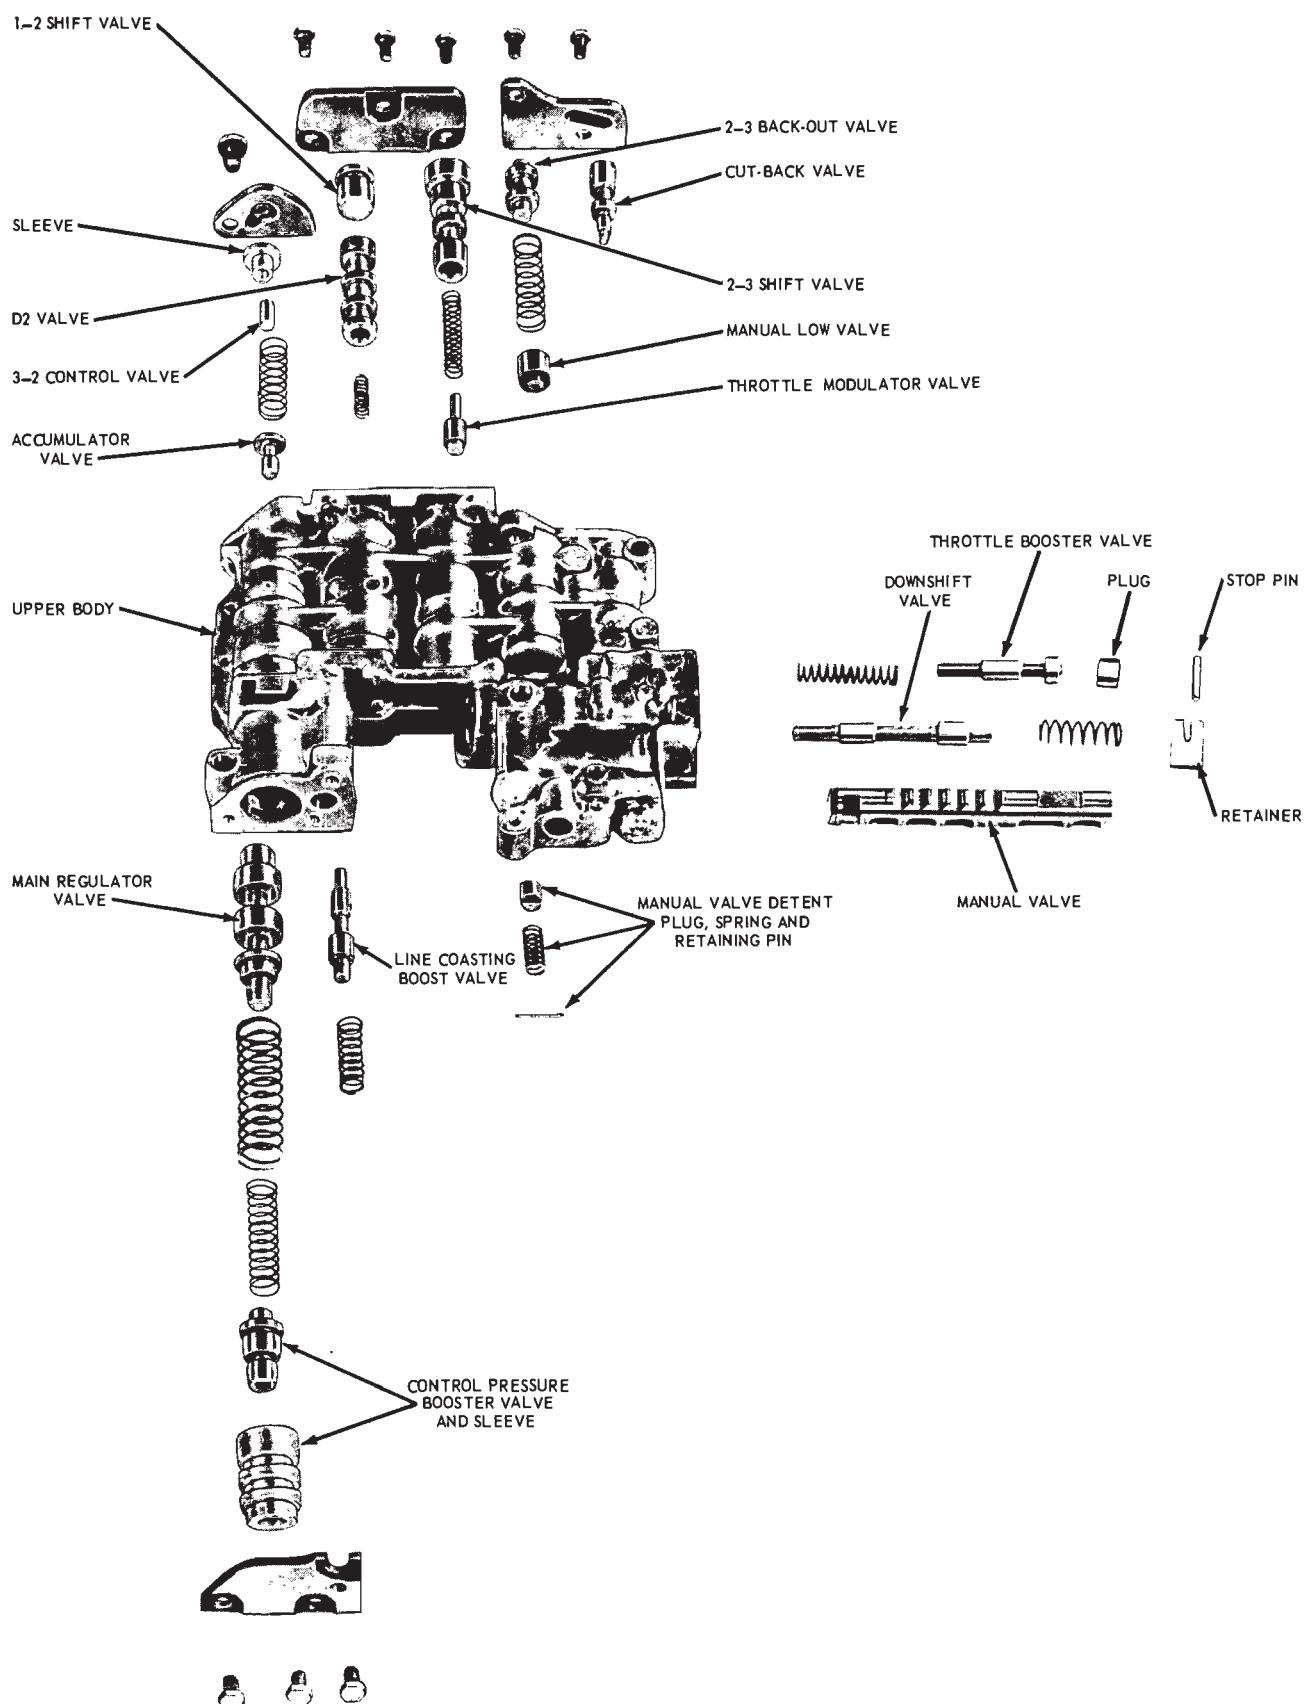

FIG. 63—Upper Valve Body Disassembled—C4 Automatic—Falcon
5. Remove the cut-back and the back-out valve cover plate from the valve body (Fig. 63).
13. Remove the pressure booster valve, cover plate (Fig. 63).
15. Remove the spring and the line pressure coasting boost valve (Fig. 63).
and the plug (Fig. 63). Depress the plug and install the retaining pin.
3. Insert the downshift valve into the body with the large diameter facing inward. Install the downshift valve spring and the retainer (Fig. 63).
4. Insert the line pressure coasting boost valve and spring in the body (Fig. 63).
5. Place the main regulator valve in the body (Fig. 63) with the large diameter facing inward. Install the two springs and the pressure booster valve and sleeve.